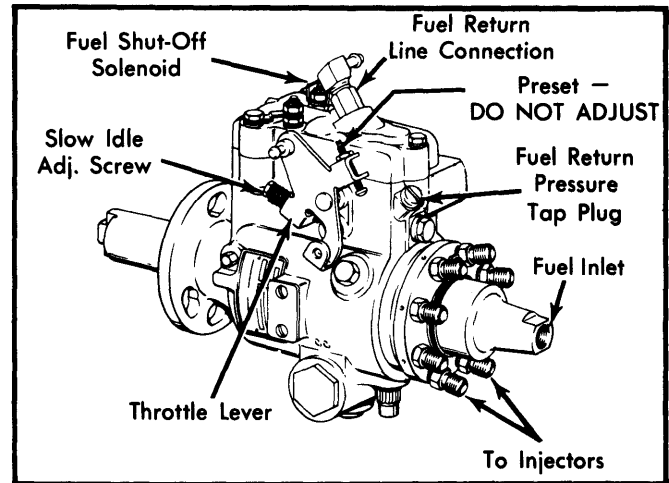

Fig. 2 Main Diesel Injection Pump
- 2) Remove pressure tap plug from injector pump. See Fig. 2.